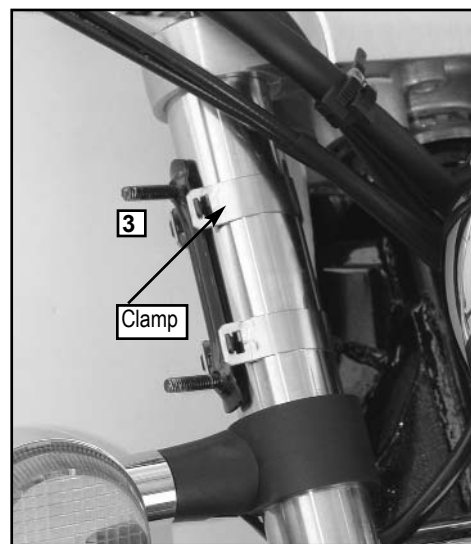

Figure 1.
5. Use the Spiders from the Chrome Lower Kit to install the Clamps in the precise location as specified in the QuickSet Mount Kit Installation Manual. **Figure 1.**